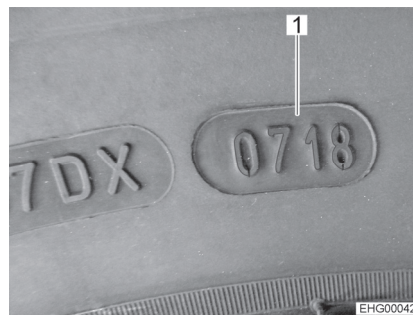

Fig. 228 DOT number
- ▷ Tyres must not be older than 6 years as the material will become brittle over time. The four-digit DOT number (Fig. 228,1) on the tyre flank indicates the date of manufacture. The first two digits designate the week, the last two digits the year of manufacture.